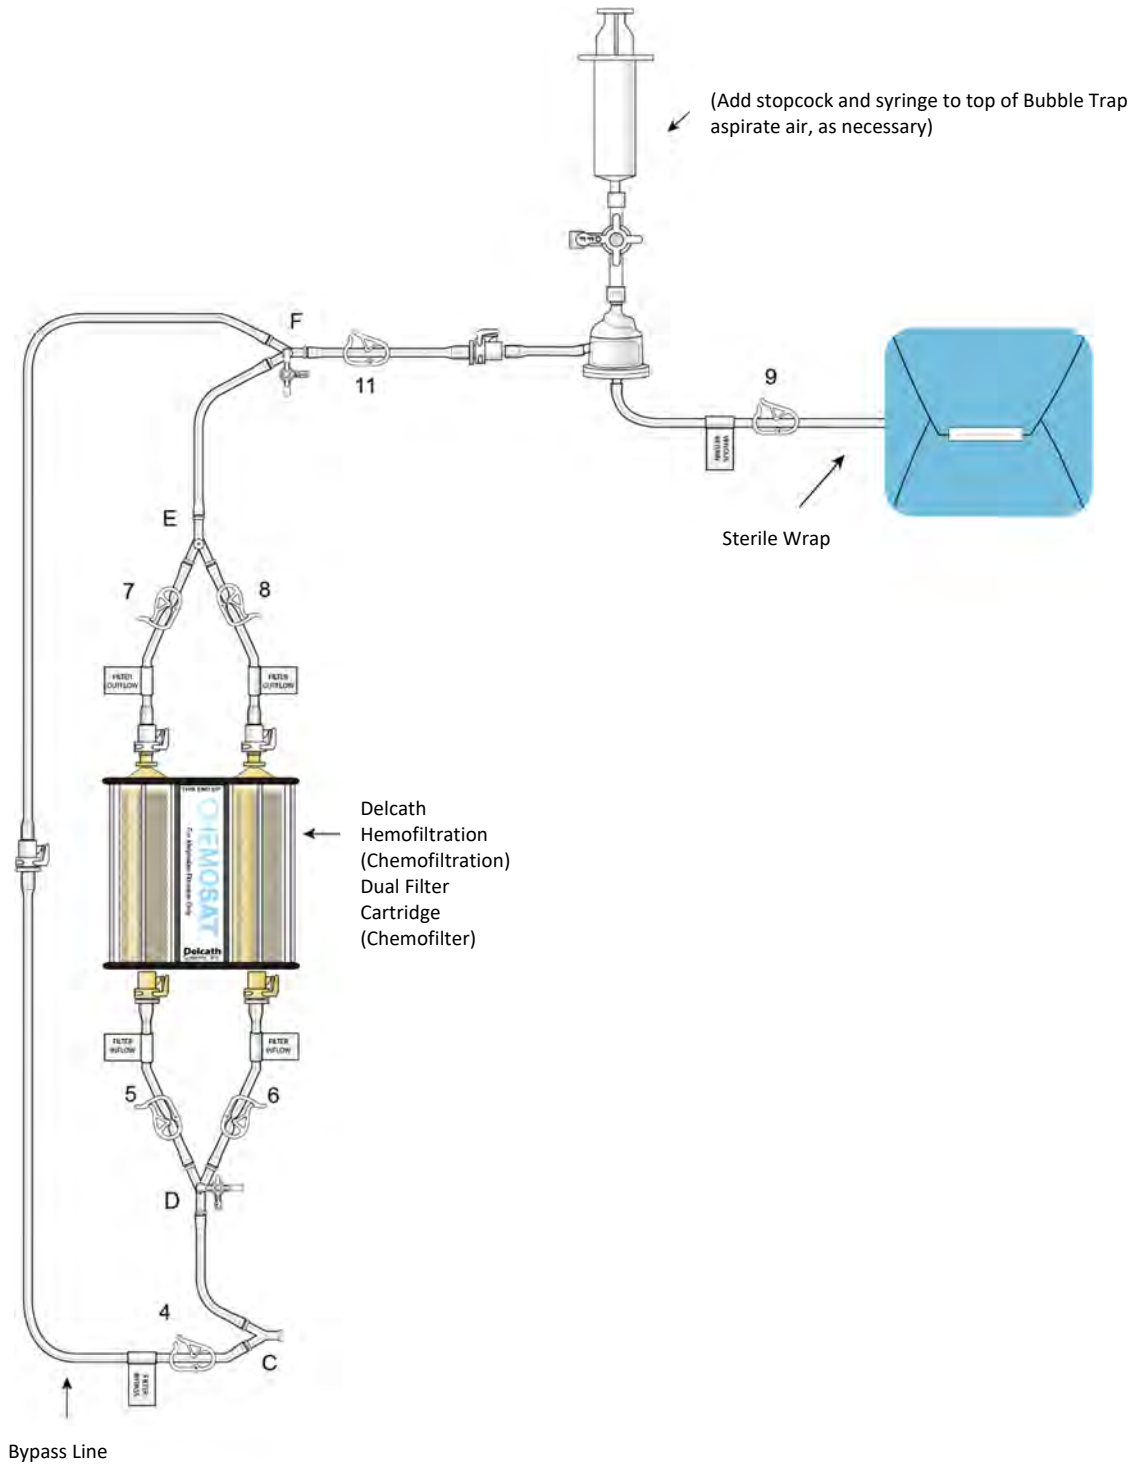

Figure 19
- (d) Prime venous return line and bubble trap by opening clamps 4, 11 and 9; attach stopcock to bubble trap and use syringe to aspirate air, as necessary, see Figure 19.